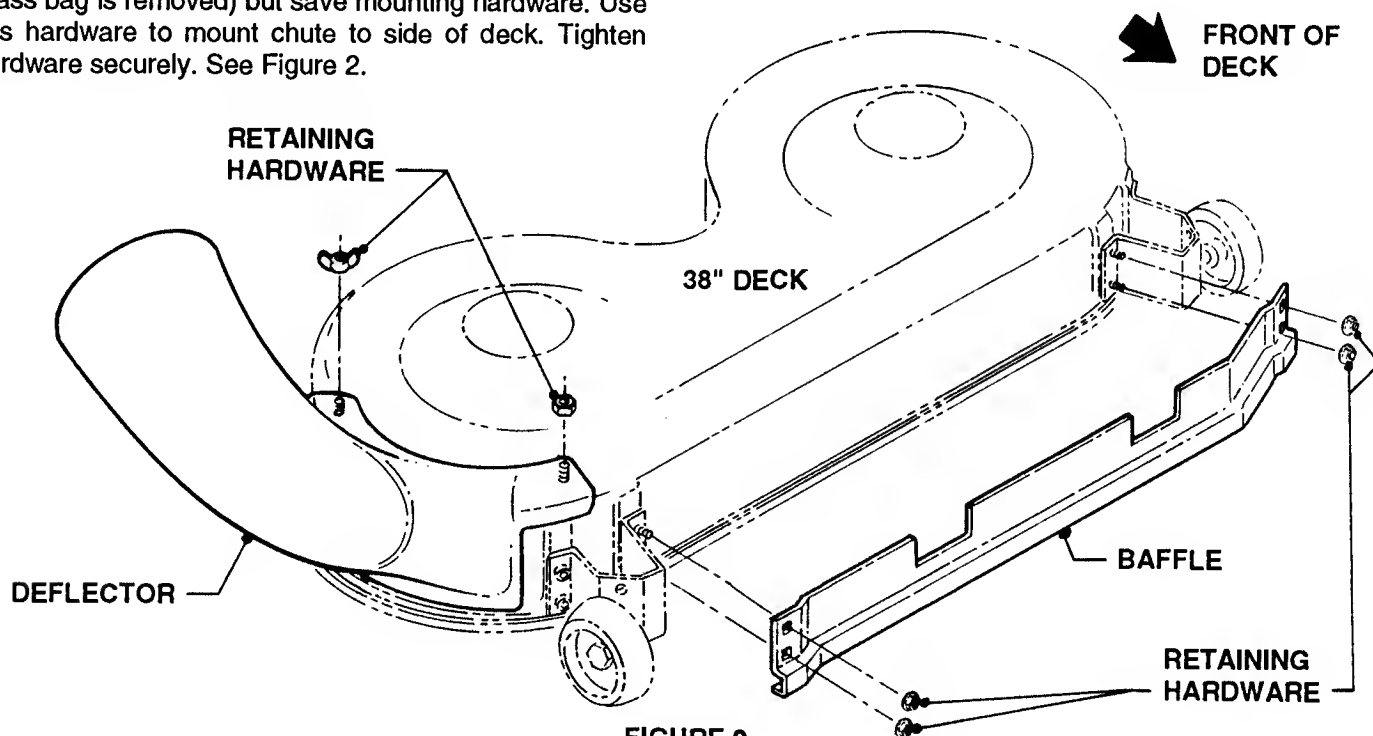

FIGURE 2
2. CHUTE TO DECK: Remove wing nut and flat washer that holds down deflector. Remove deflector and hinge (NOTE: Save deflector and hinge for later use when grass bag is removed) but save mounting hardware. Use this hardware to mount chute to side of deck. Tighten hardware securely. See Figure 2.
3. BAFFLE TO DECK: Remove retaining hardware from the inside of both wheel brackets as shown. Position baffle on top of wheel brackets and secure with retaining hardware. See Figure 2.